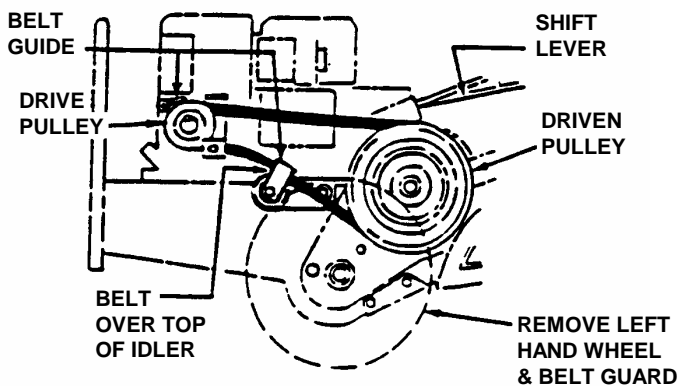

FIGURE 14
3.5.2 BELT REPLACEMENT: Pull the clevis pin from the left wheel and slide the wheel out 1", remove belt guard and then the old belt. NOTE: Replacement belt must go over the top of the idler and be within the belt guide as shown in Figure 14. Check belt tension as described in BELT TENSION ADJUSTMENT Section. Reinstall guard, push left wheel back into position, secure with clevis pin and insert, and secure cotter pin.